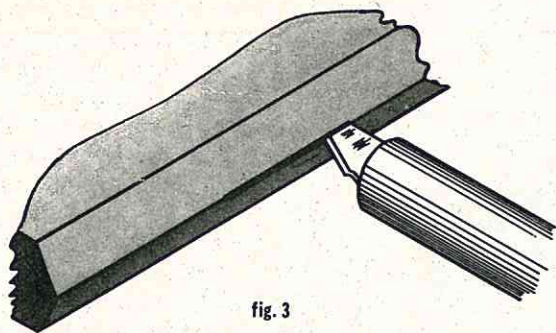

fig. 3
STEP 2. Slit each edge where you want the hinges to be inserted. Use a thin bladed modelling knife. Slit along the centerline. (Fig. 3)